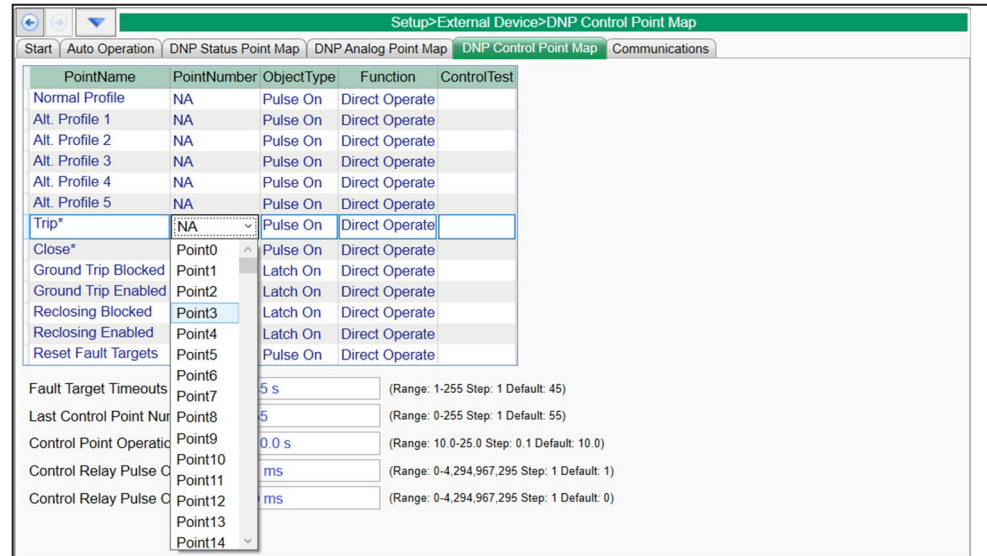

Figure 13. Mapping the Transfer Trip Command to the external device.
STEP 5. When configuring an IntelliNode/Info-Only module, the external device must be configured to receive the **Transfer Trip** command. Go to the *Setup>External Device>DNP Control Point Map* screen and configure the **Trip** DNP control point. See Figure 13.